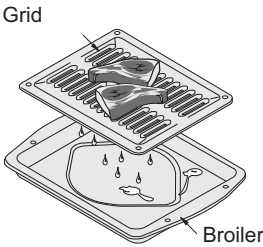

Figure 16: Broiler pan/insert
- 1. Arrange interior oven racks and place the broiler insert on the broiler pan, then place the meat on the insert. Remember to follow all warnings and cautions (Figure 16).